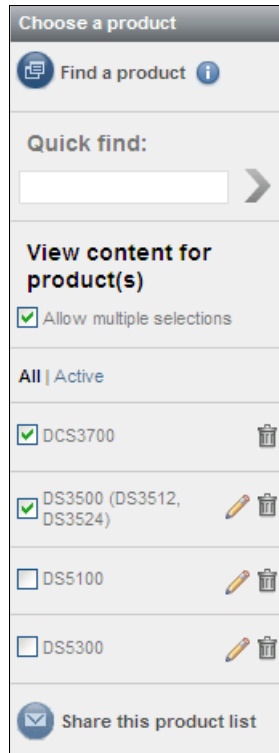

Figure A-3 Multiple product selection
- You can have more than one product in your selection pane, so you can select multiple products, as shown in Figure A-3.